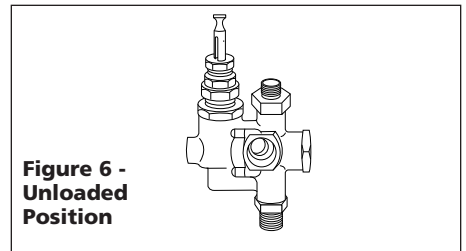

Figure 6 - Unloaded Position
4. Turn manual unloader lever up to a vertical position to allow the compressor pump to run without compressing air. (See Figure 6.)